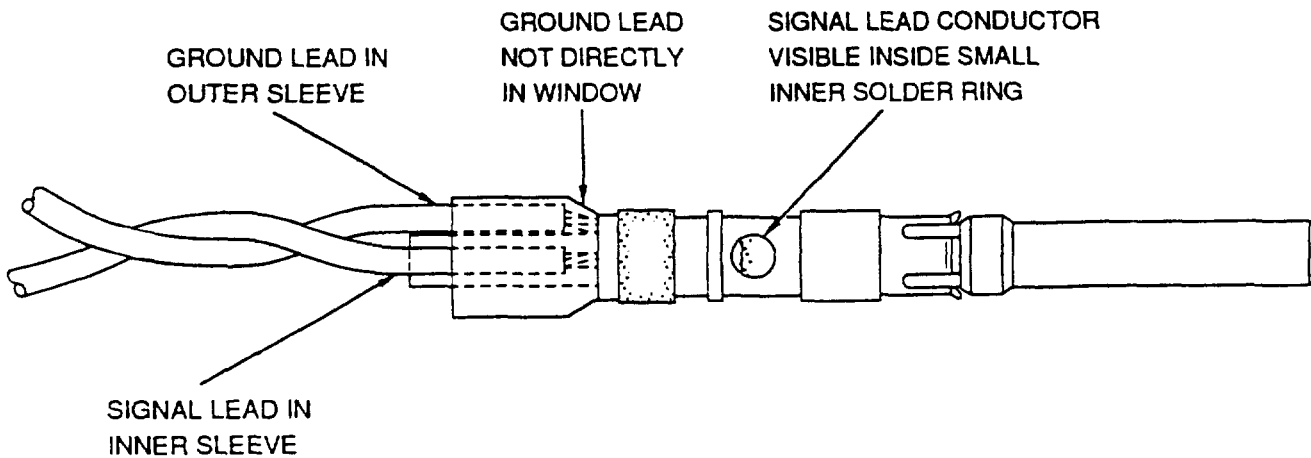

Figure 17. Inserting Twisted Pair into Solder Contact
- a. Insert signal lead into center insulating sleeve and ground lead into outer insulating sleeve. Ensure wires bottom in contact (Figure 17).